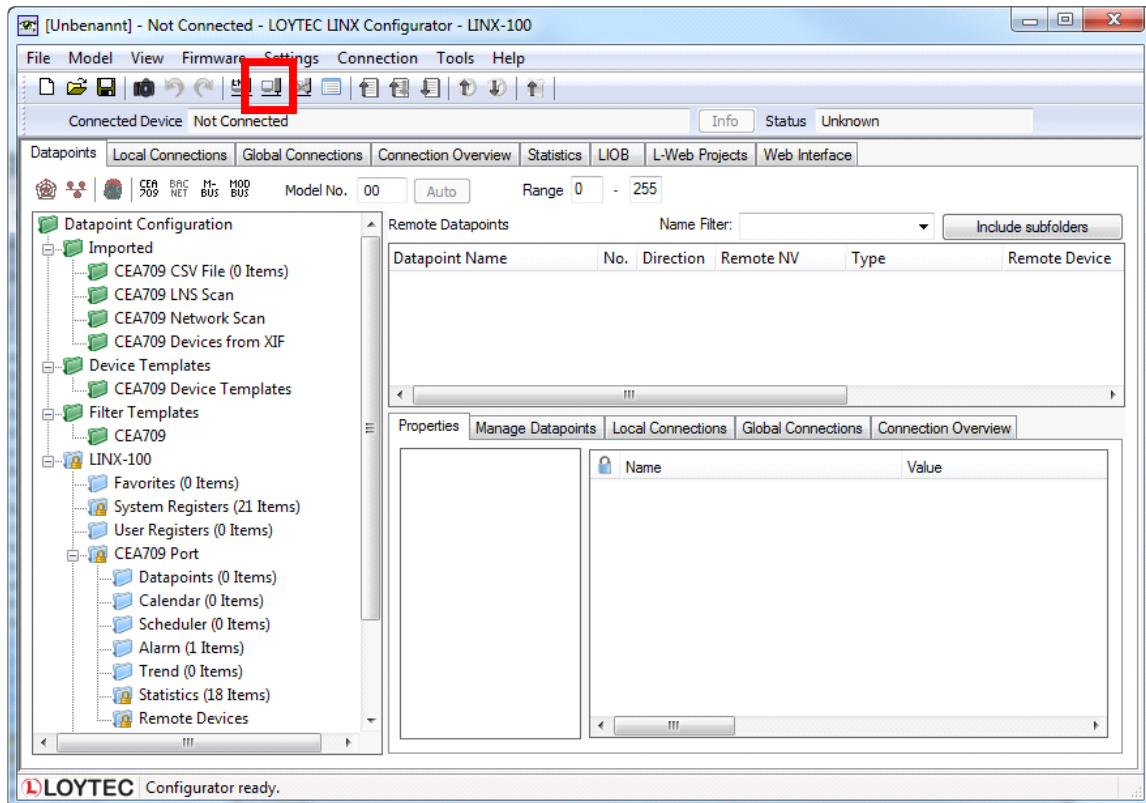

Figure 42: L-INX Configurator main screen.
1. Start the L-INX Configurator software by selecting Windows **Start → Programs → LOYTEC LINX Configurator → LOYTEC LINX Configurator**. The application starts up and displays the data point manager screen as shown in Figure 42.
2. When the device is online, connect to the device by clicking on the **Connect to device** speed button as indicated by the red rectangle in Figure 42.